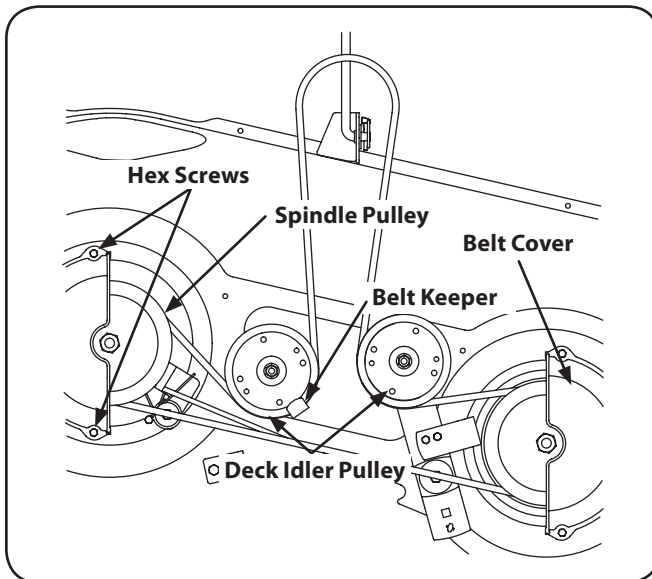

Figure 7-8
2. Remove the belt covers by removing the hex screws that fasten them to the deck. See Figure 7-8.
3. Loosen, but do not remove the left deck idler pulley and belt keeper. See Figure 7-8.
4. Carefully remove the deck belt from around the two spindle pulleys and the two deck idler pulleys. See Figure 7-8.